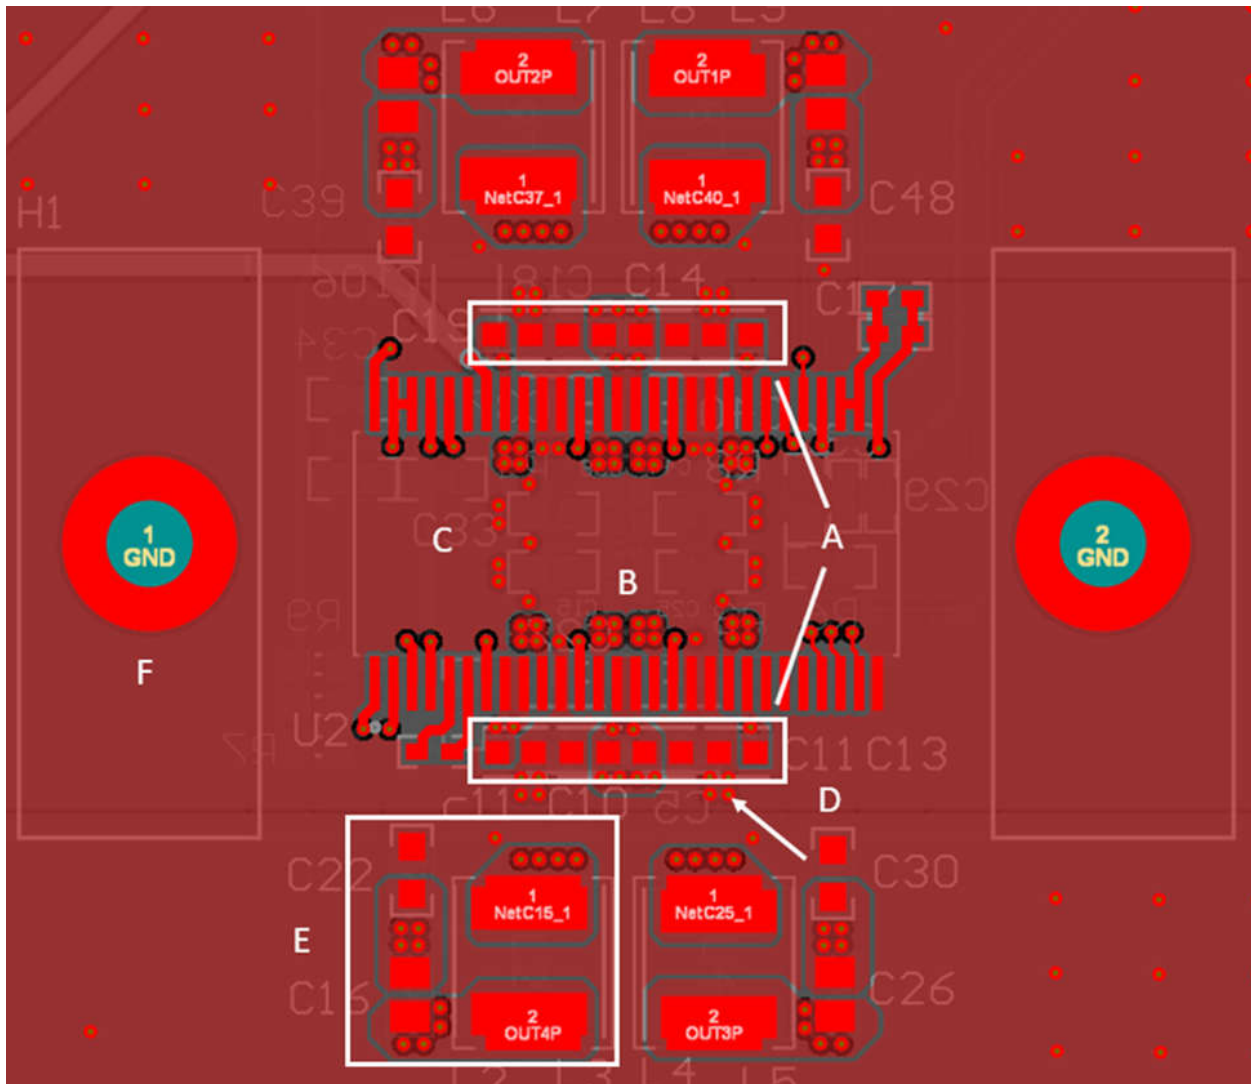

Figure 8-2. TAS6754-Q1 Recommended Layout
The TAS6754-Q1 has two output channels on each side of the device, to achieve the best thermal performance. See Typical Application for a typical application schematic. Figure 8-2 shows a reference low EMI layout.
For optimizing the EMI a solid ground layer plane is recommended. While the TAS6754-Q1 EVM layout is a good starting point, it is not recommended for EMC testing. Further board level optimizations are suggested to ensure that the EMI requirements are passed. A first reference is seen in Figure 8-2
- The decoupling capacitors on PVDD, **A**, are very close to the device with the ground return close to the ground pins. 8 100nF capacitors are recommended as Figure 8-2 shows. Another 4 1uF capacitors can be placed on the back of the PCB.